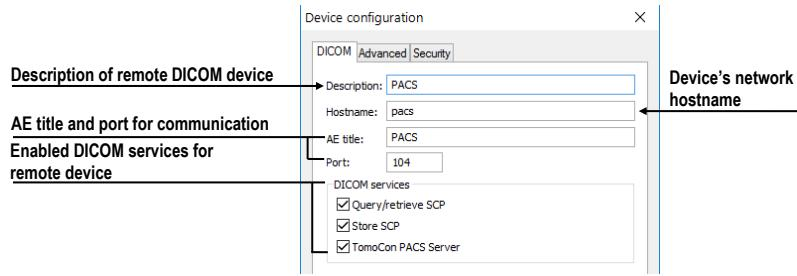
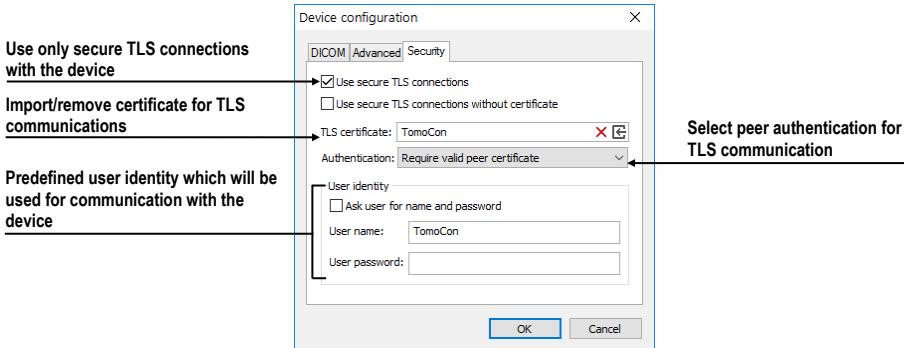

Figure 85 – Device configuration dialog – DICOM tab
Figure 87 – Device configuration dialog – Security tab
- To add a new DICOM device as a separate item, click **Add device** button. The **Device configuration** dialog (see Figure 85 - Figure 87) will be displayed to enter the required informations about a device.
- To add a new DICOM device into a previously defined group, select the group in the list and click **Add device**. The **Device configuration** dialog (see Figure 85 - Figure 87) is displayed to enter the required information about a device.
- To modify a group or a DICOM device, click **Configure....** The **Device configuration** dialog is displayed where the information concerning a group or a device can be modified (see Figure 85 - Figure 87).